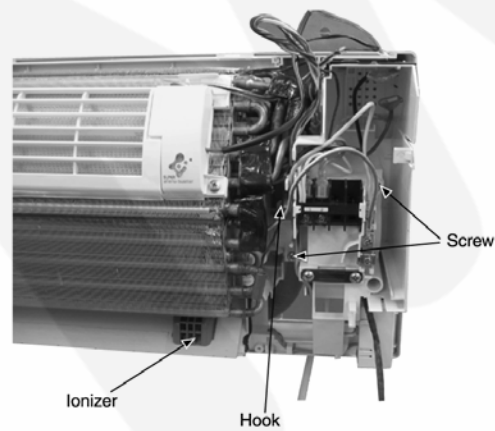

Fig. 7
- Remove indoor pipe sensor and air intake sensor from the evaporator. (Fig. 7)
- Remove the earth wire from the evaporator. (Fig. 7)
- Remove 2 screws on the right and 1 screw at the left side of the control board. (Fig. 7)
- Press down the hook on the left side of control board. (Fig. 7)
- Then pull out the Control Board Complete from the unit. (Fig. 7)